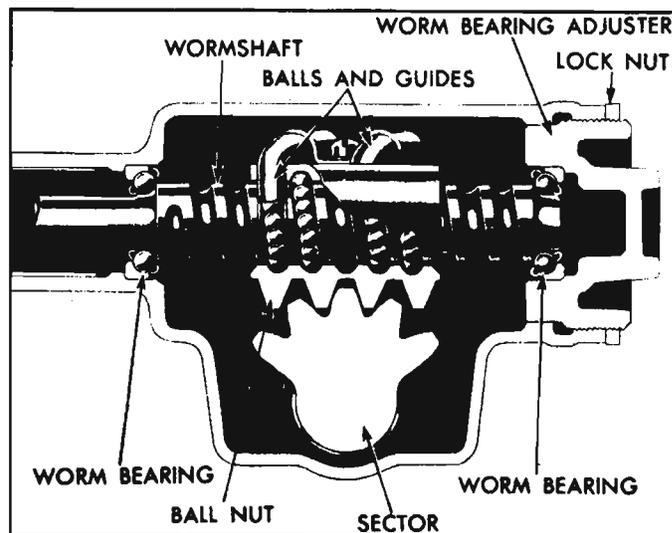

Fig. 4-44—Cross-Section of Steering Gear
As with any ball bearing unit the steering gear parts must be kept free of dirt. Clean paper or rags should be spread on the bench before starting disassembly of the steering gear. Refer to Figure 4-44.
2. Loosen the lock nut on the worm bearing adjuster shown in Figure 4-44 and turn the adjuster counterclockwise a few turns.